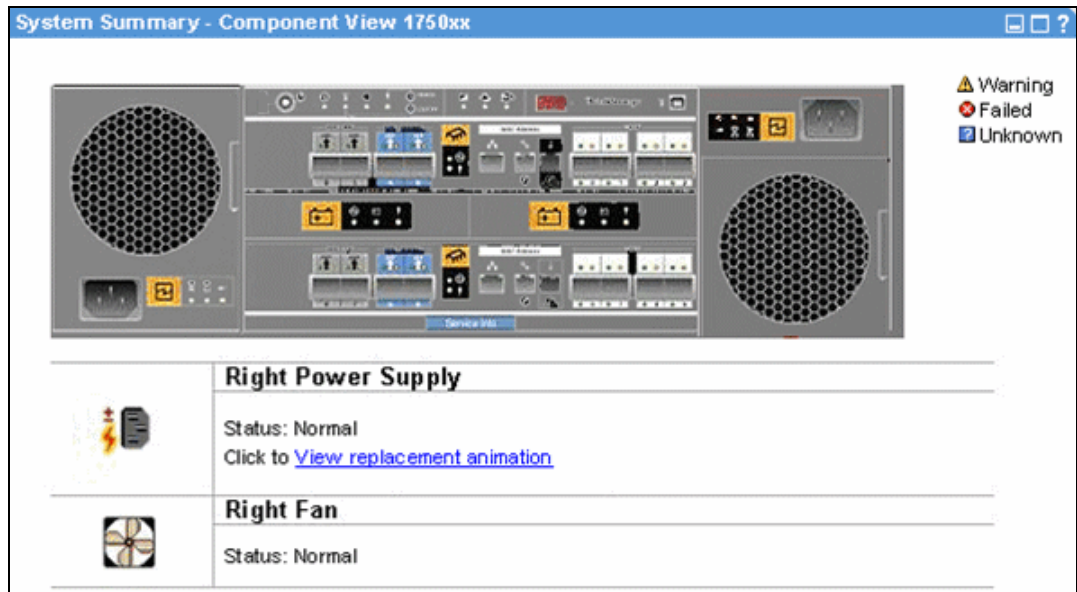

Figure 3-8 Power supply replaced
3. Finally, you check the component view to review system health after the repair. An example of this is shown in Figure 3-8. In this example we can see that all the components displayed are *normal*.